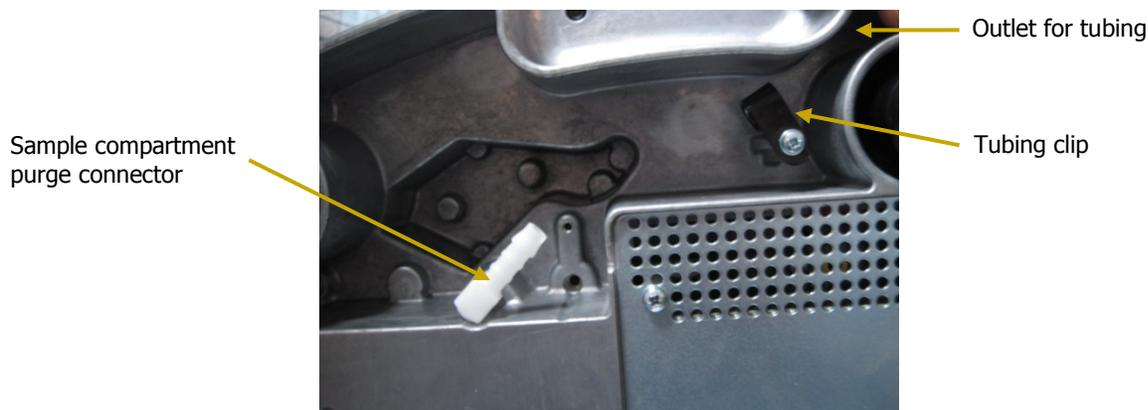

Figure 85 Sample compartment purge connector
5. Locate the sample compartment purge connector shown in Figure 85.